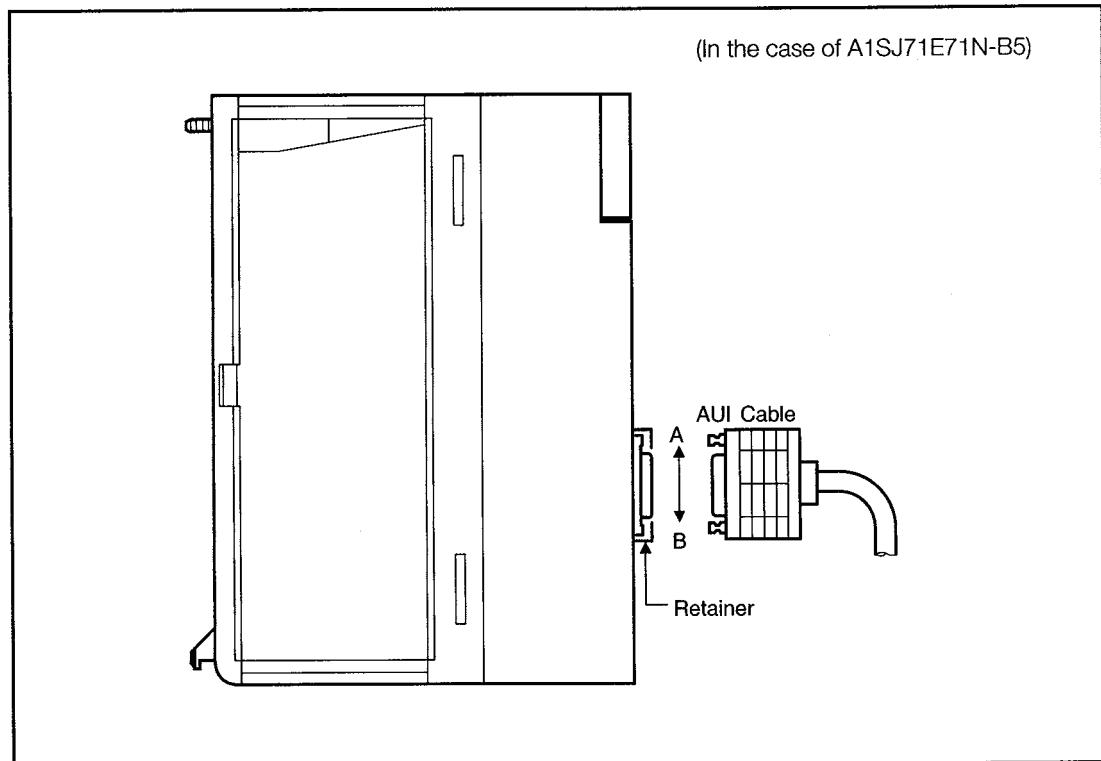

Fig 4.1 AUI Cable Connection Diagram
- (1) Slide the retainer in the A direction as shown in Fig 4.1.
- (2) Push the AUI cable connector to the back.
- (3) Slide the retainer in the B direction as show in Fig 4.1.
- (4) Check that the AUI cable is locked.
- (5) Turn on the transceiver's power. (*1)